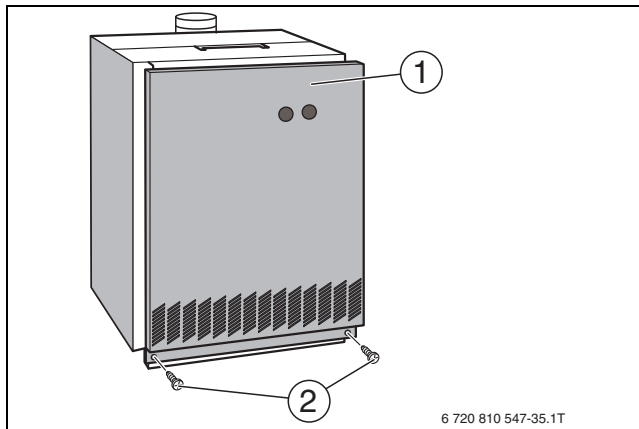

Fig. 2 Installing/removing the front wall of the boiler
4. Unscrew the locking screws (→ Fig. 2 [2]) at the bottom of the front cover [1], lift front cover up, pull outward and remove to the front.
8. Replace front wall of boiler (→ Fig. 2, page 5).
4. Removing the front wall of the boiler (→ Fig. 2, page 5).